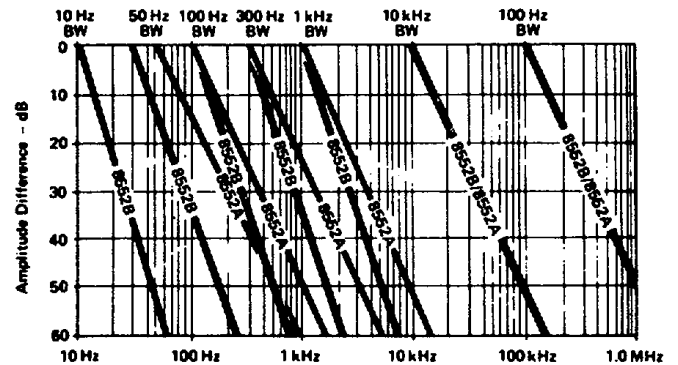

Figure 1-3. Typical Resolution
**Resolution:** See Figure 1-3 for curves of typical 8553B/8552B Spectrum Analyzer resolution using different IF bandwidths.